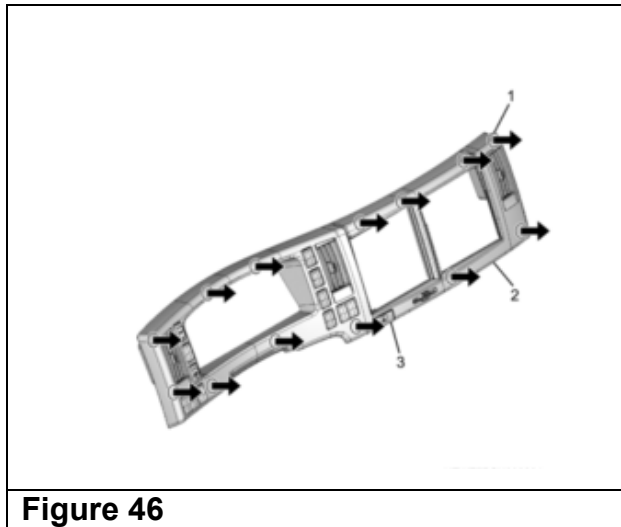

Figure 46
46. Remove the meter cluster bezel from the instrument panel by pulling forward and disconnecting the switches. (See Figure 46.)